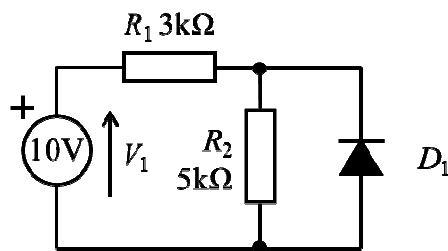

Figure 4.2
- c. Identify the conduction state of diode  $D_1$  in circuit shown in figure 4.2 above, is it **conducting** or **not conducting**? (2)
- d. The voltage source  $V_1$  shown in figure 4.2 is to be changed to any value you choose. What **voltage** should that source  $V_1$  be changed to in order to bring diode  $D_1$  to the exact point where its state of conduction is changing from one state to the other? State any assumptions that you have made. (5)